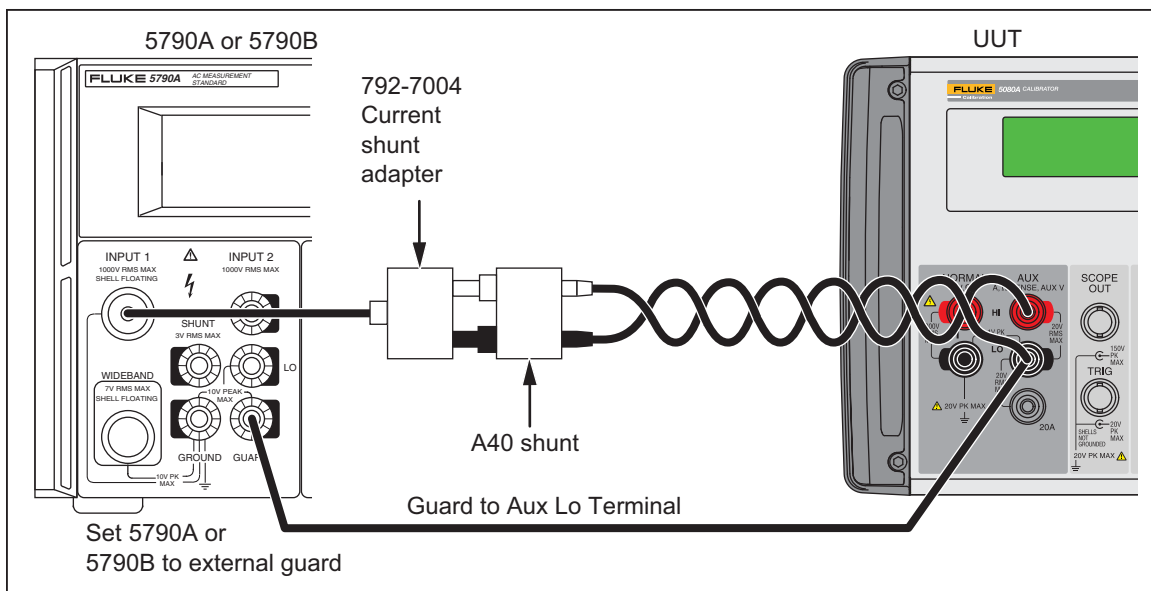

Figure 13. Connections for Calibrating AC Current with a Fluke A40 Shunt
1. Connect the test equipment as shown in Figure 13.